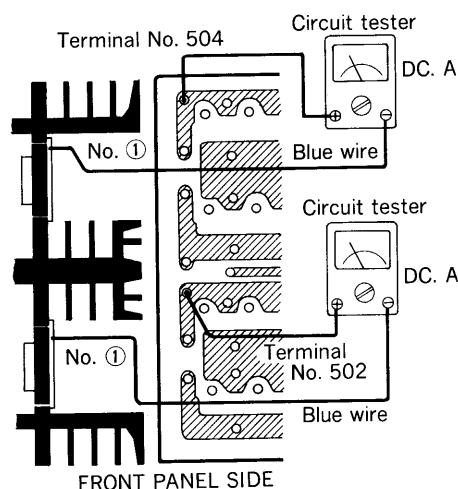

Fig. 3
- With the rear panel of the set removed, disconnect the lead wire of 504 terminal soldered to the power supply printed circuit board for the main amplifier, and connect the circuit tester in the DC current measuring range as in fig. 3.